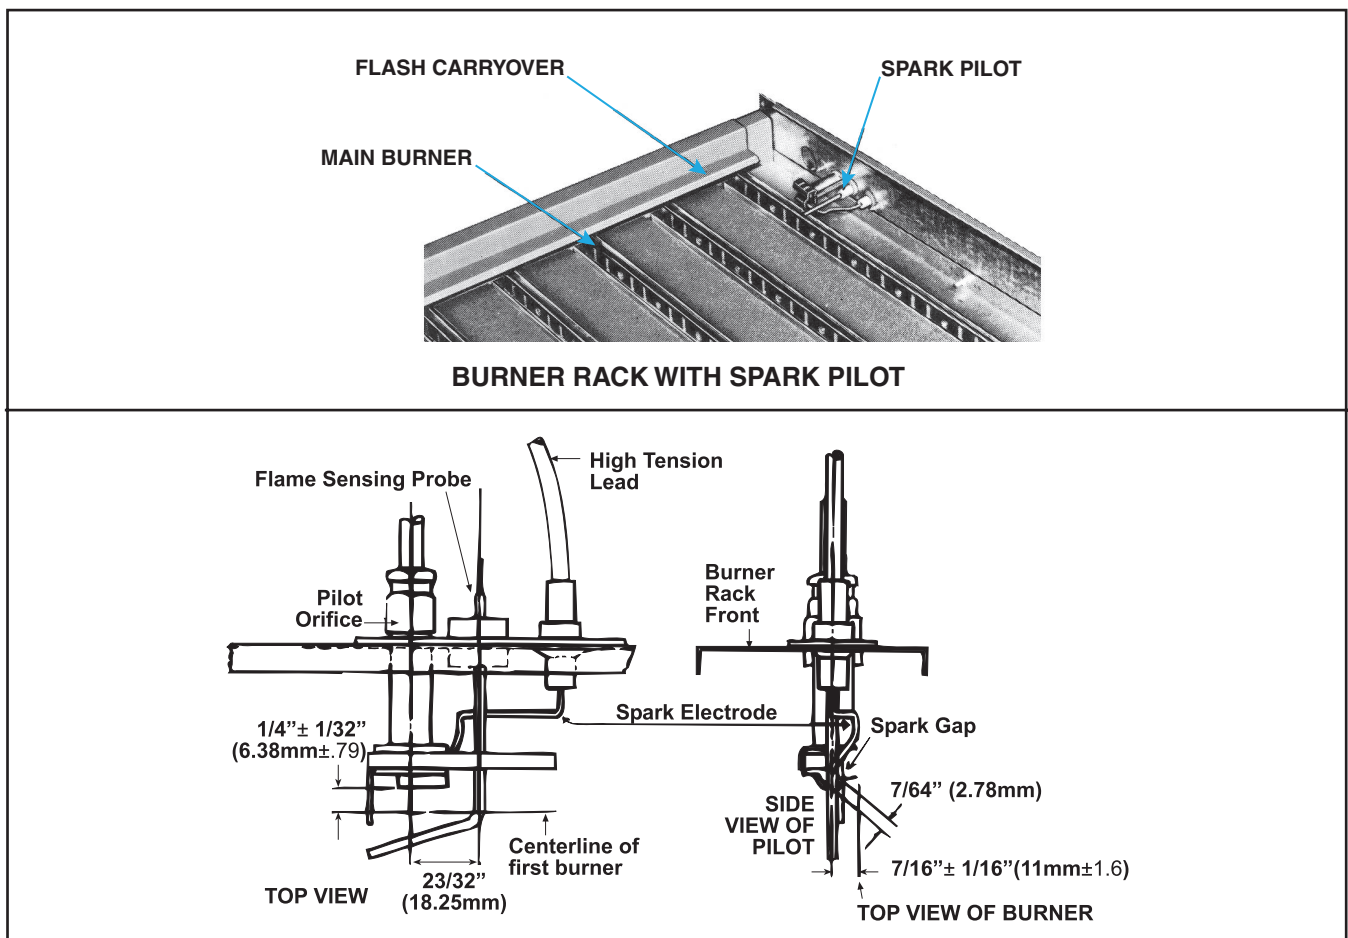

Figure 22. Spark Pilot
- The horizontal pilot is located in the control end of the burner rack and is accessible after the control compartment panel has been removed. All pilots are target type with lint-free feature (see Figure 22).